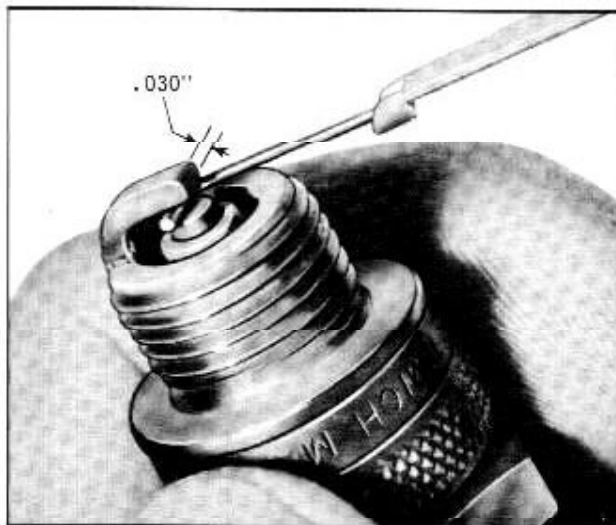

Fig. 9-1 Adjusting Spark Plug Gap
3. Clean serviceable plugs with an abrasive type cleaner, file center electrode flat and gap to .030" with a round wire feeler gauge. (Fig. 9-1)